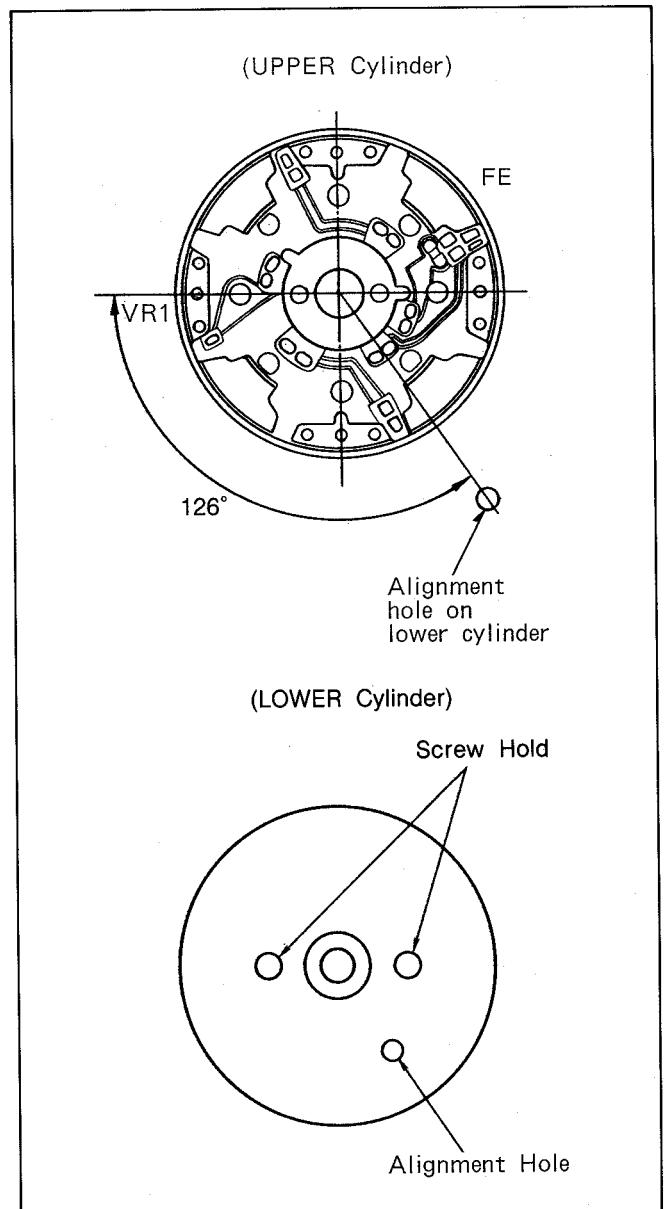

Fig. R2
4. The Upper Cylinder Unit can be reinstalled by reversing the removal procedure, however, when the Upper Cylinder is reinstalled, be extremely carefully so that VR1 of upper cylinder should be align 126' from lower cylinder alignment hole as Fig. R2.